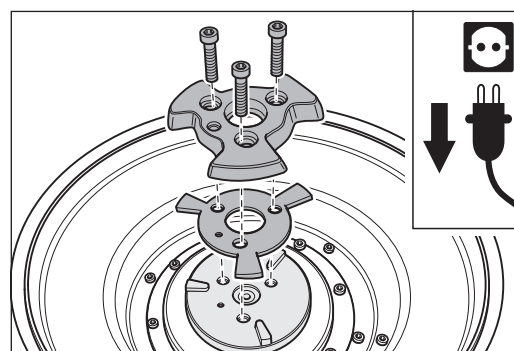

Fig. 33 Replace the plate mounting and the shock absorber.
- 6 Remove the shock absorber (Fig. 33).